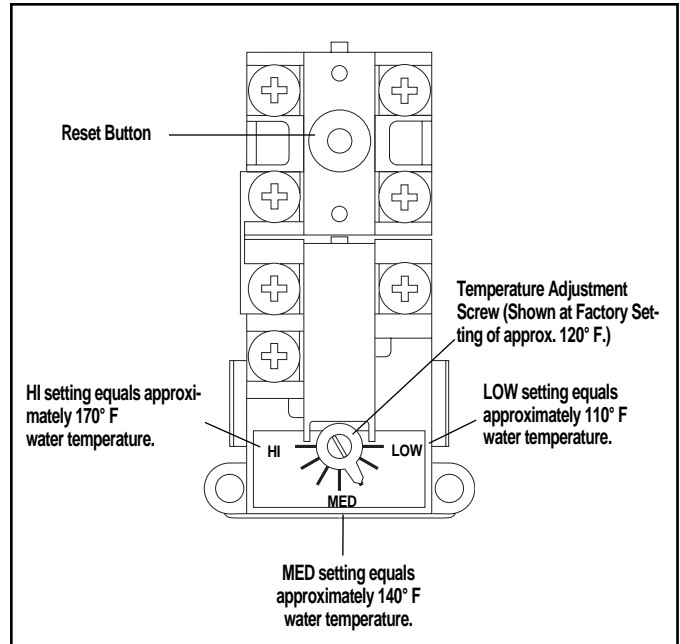

Figure 11 — Upper Thermostat temperature adjustment.
- B. Remove the four (4) screws securing the thermostat access panel and the two (2) thermostat insulation pads, exposing the thermostat. The plastic personnel protector *should not be removed*.
- C. With a small screwdriver, adjust the thermostat setting. This thermostat is marked LOW / MED / HI. The 120°F factory set position (the recommended setting) is at the 5 o'clock position (Refer to Figure 11). The temperature settings range from approximately 110°F (LOW) to approximately 170°F (HI). The MED position results in approximate water temperature of 140° F.
- D. Replace the two (2) pieces of fiberglass insulation over the thermostat and attach the thermostat access panel.